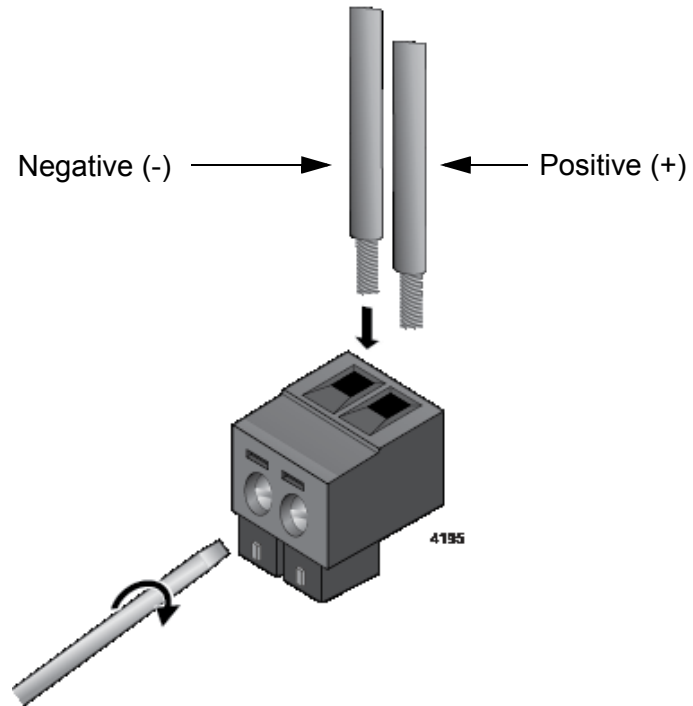

Figure 43. Inserting the Wires into the DC Cable Connector
5. Insert the wires into the connector and tighten the retaining screws to secure the wires. Refer to Figure 43.